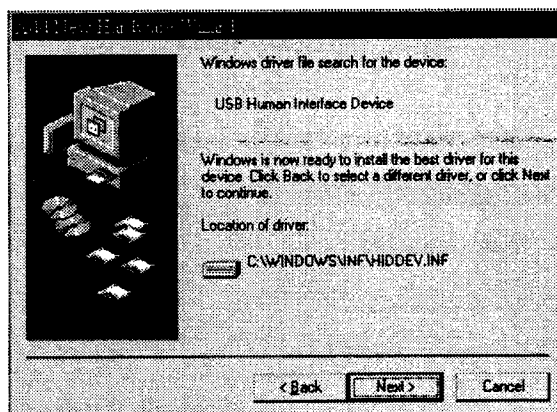
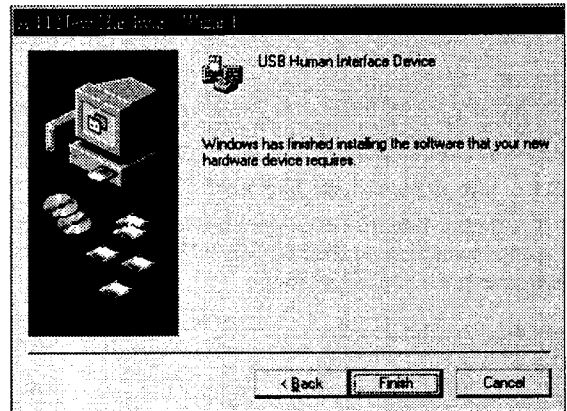

Figure 14
Figure 15
(4) Click "CD-ROM Drive(C)" and "(L)", and click "Next". Figure 14 will appear.
(5) Click "Next" on Figure 14 and Figure 15 will appear. Click "Finish" on Figure 15 to complete Enumeration of Mitsubishi Monitor Function.